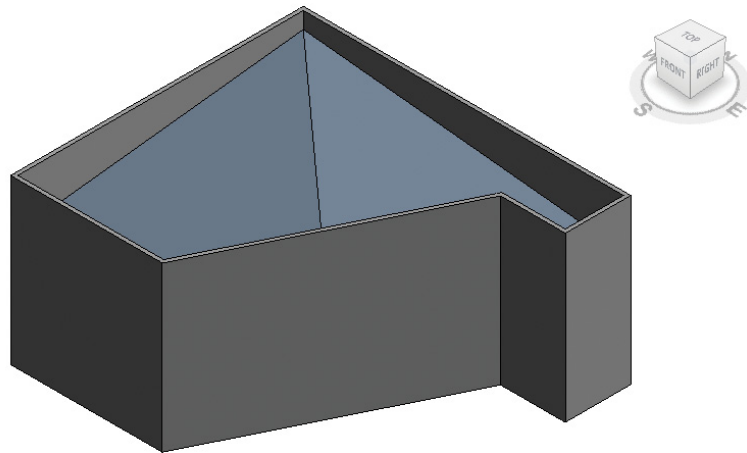

FIGURE 3.20 Roof created from two slope arrows
3. Finish the sketch. The results resemble the roof in Figure 3.20.